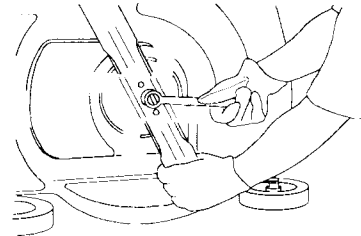

Figure 32
3. Secure the blade with the blade nut (or bolt on Model 10363) as shown in Figure 32.